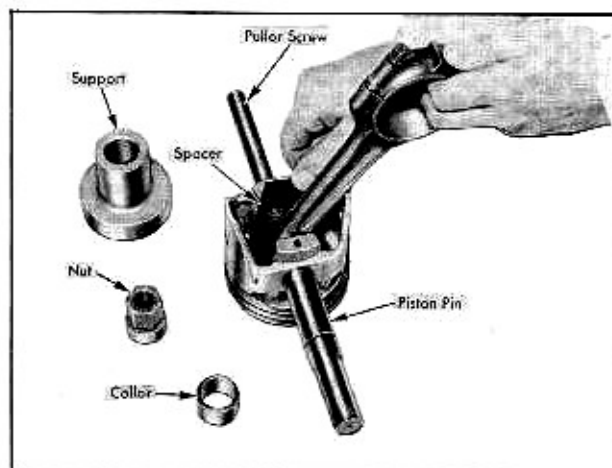

Fig. 10-22 Installing Puller Screw and Spacer
5. Install puller screw through piston pin and pilot from side of piston marked "REAR", Fig. 10-22.
- NOTE: The spacer must be installed between the piston and the rod on the side opposite that stamped "REAR", Fig. 10-22.